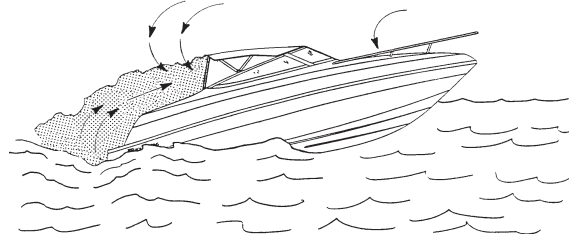

Figure B9: Inefficient trim angles
1. Intentional or unintentional excessive trim angle causing high bow angle. See Figure B9.